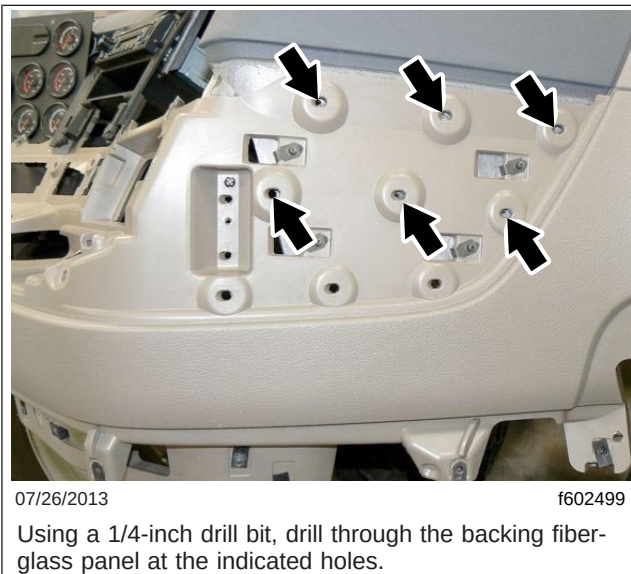

Fig. 3, Lower Fascia Attachment Holes
11. Locate the six top holes on the passenger's side of the dash wing. Using a 1/4-inch drill bit and the existing holes as pilot holes, drill through the backing fiberglass panel. Use care to drill only through the fiberglass panel and no farther. See Fig. 3.